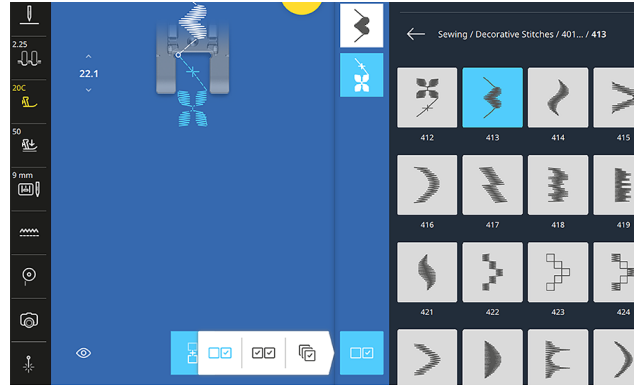

Fig. 21
6. Select All (the stitches) from the Selection Options at the bottom of the Combination Bar (Fig. 21).